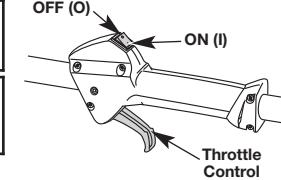

Fig. 4
- NOTE:** There is no need to turn the unit on. The On/Off Control is in the ON (I) position at all times (Fig. 4).
- Press and hold the On/Off Control switch in the **OFF (O)** position until the unit comes to a complete stop (Fig. 4).